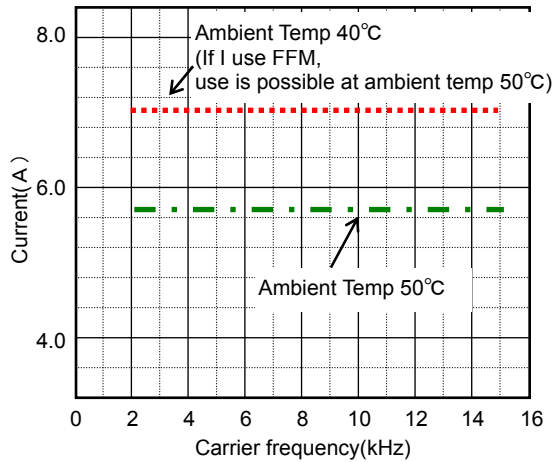
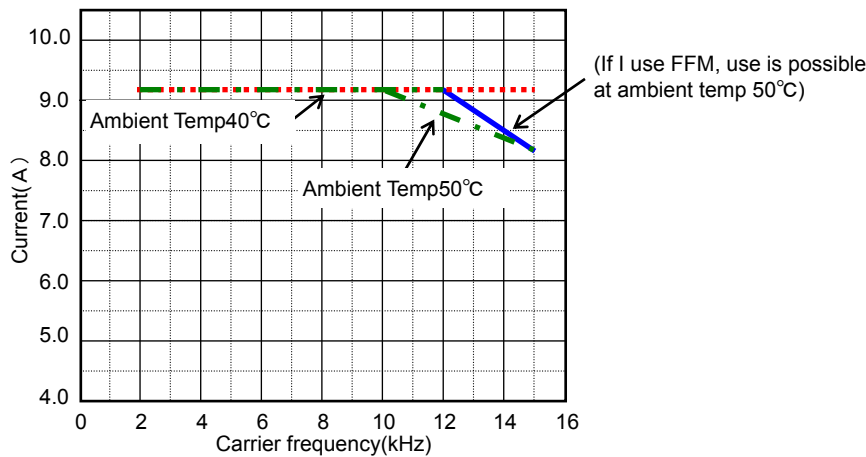

Figure5. Derating of NES1-015SB
Figure7. Derating of NES1-040HB
• Derating properties are improved by attaching optional FFM to an applicable model. Neither applicable model needs the derating of the carrier frequency and the current derating at ambient temperature 50°C. The detail refers to figure 5 ,6 and figure 7